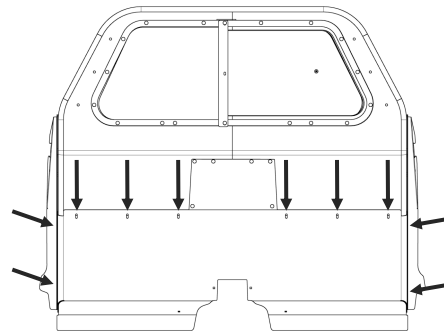

Figure 6b
- C. Align the (10) holes in the Full Width Lower Extension Panel with the (6) in the partition and the (2) in each mounting plate (Fig 6b). Loosely install a carriage bolt [3X36] and a whiz nut [16Z] into each hole. Install the fasteners such that the smooth head of the carriage bolt is facing the rear of the vehicle.